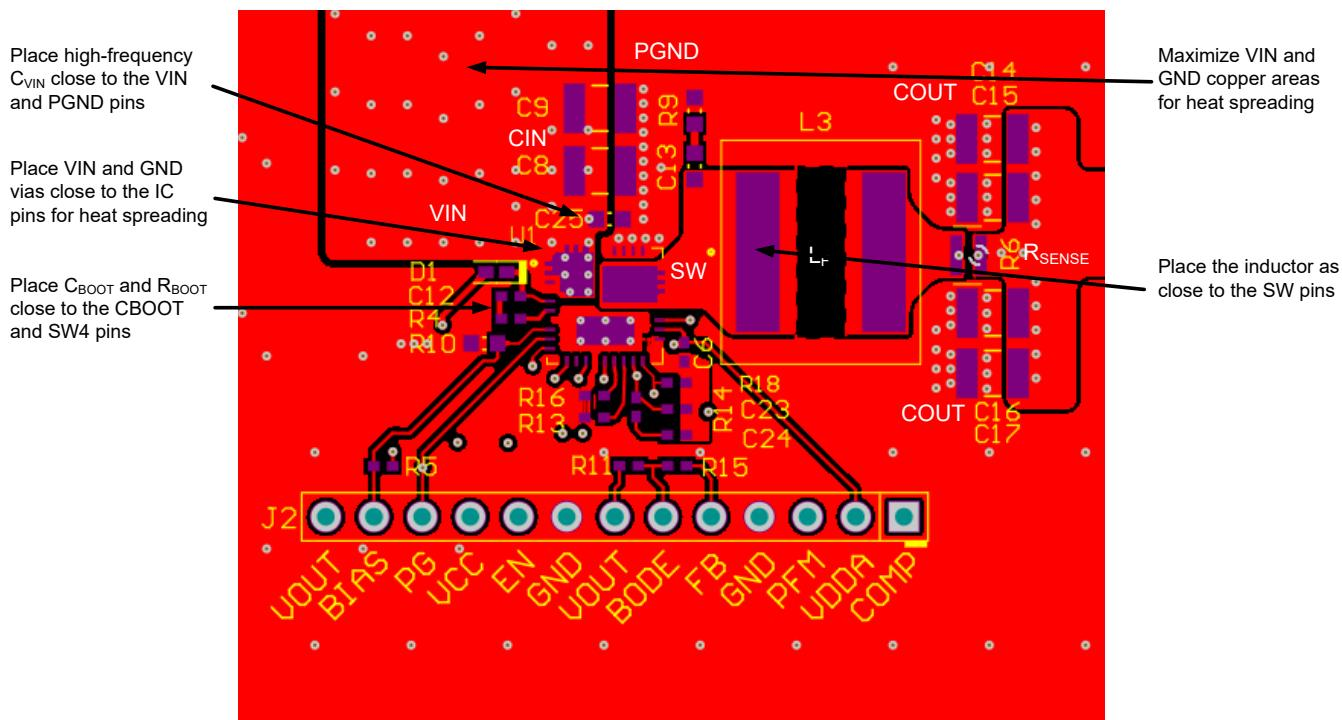

図 7-33. PCB Top Layer – High Density, Single-sided Design
The following list summarizes the essential guidelines for PCB layout and component placement to optimize DC/DC converter performance, including thermals and EMI signature. 图 7-33 shows a recommended layout of the LM704A0-Q1 with optimized placement and routing of the power-stage and small-signal components.
- Use low-ESR ceramic capacitors with X7R or X7S dielectric from VIN to PGND. Place an 0402 capacitor close to VIN for high-frequency bypass as shown in 图 7-33. Use additional 1206 or 1210 capacitors for bulk capacitance.